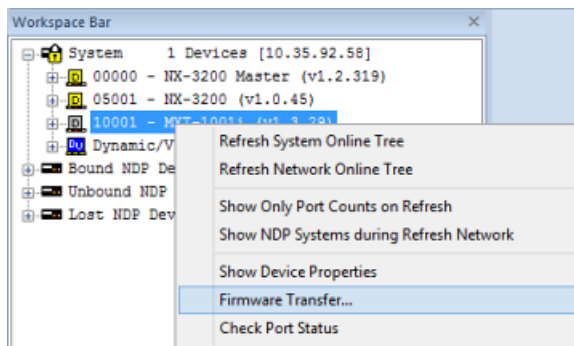

FIG. 158 NetLinX Studio Online context menu (Firmware Transfer selected)
3. Right-Click on the G5 panel, and select **Firmware Transfer** from the context menu (FIG. 158):